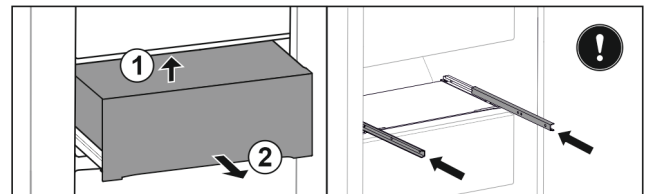

Fig. 143
- ▶ Lift drawer from below. Fig. 143 (1)
- ▶ Remove drawer to the front. Fig. 143 (2)